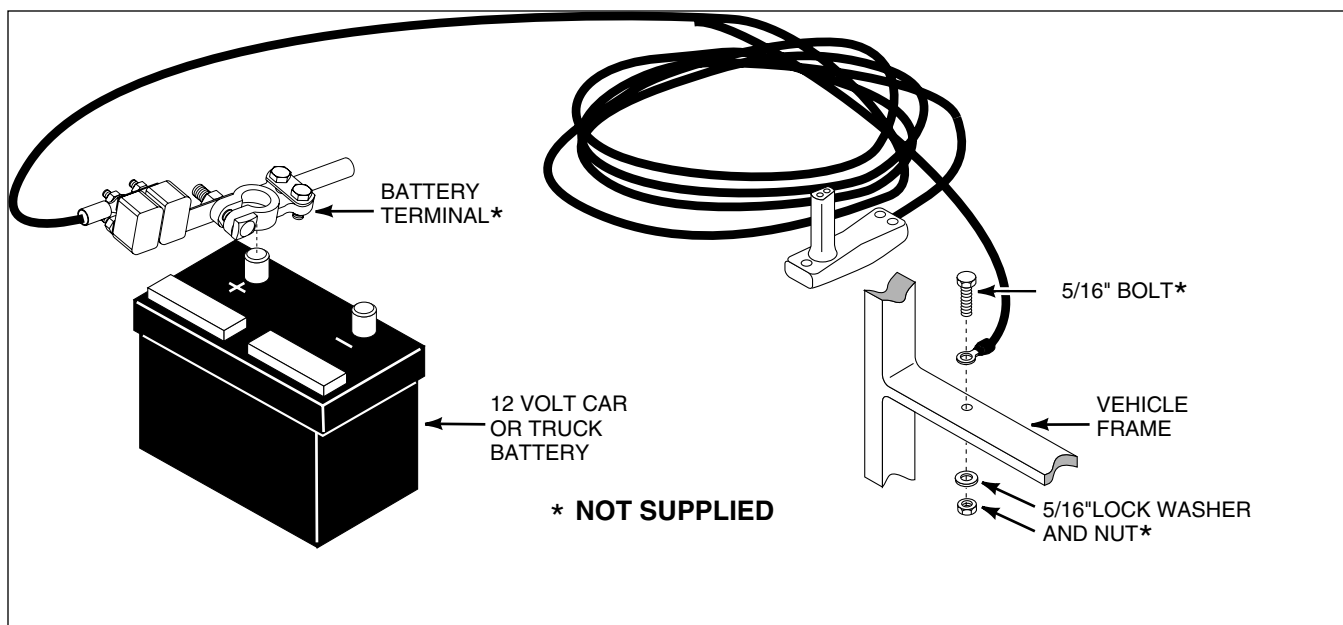

Figure 1 Permanent Wiring Hookup
To permanently wire the winch, refer to Figure 1 follow the outlined procedures.
1. Attach the circuit breaker to the **positive (+)** battery post or to the **positive (+)** battery side of the starter solenoid (See Figure 1).